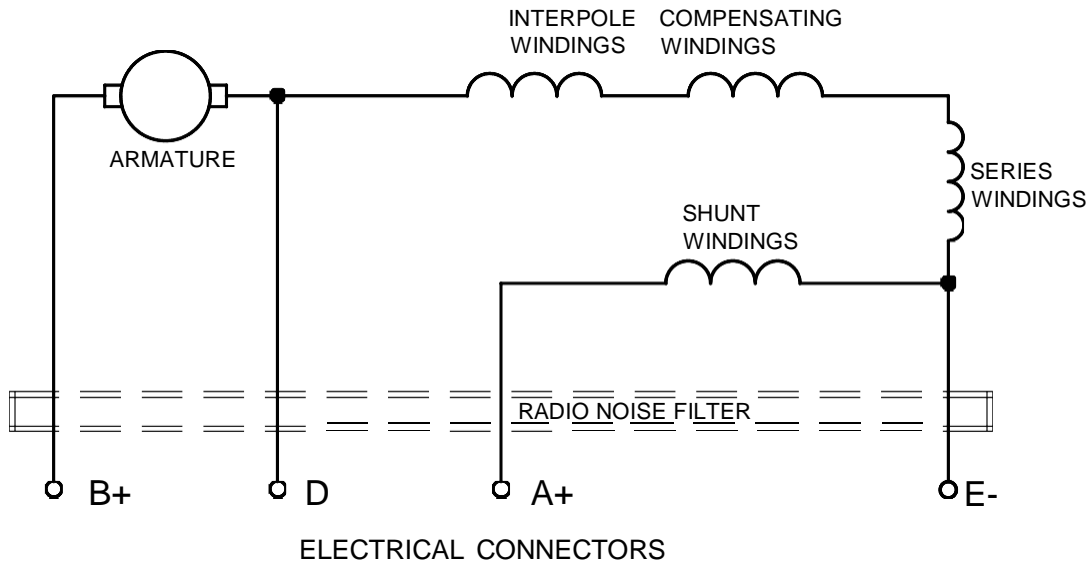
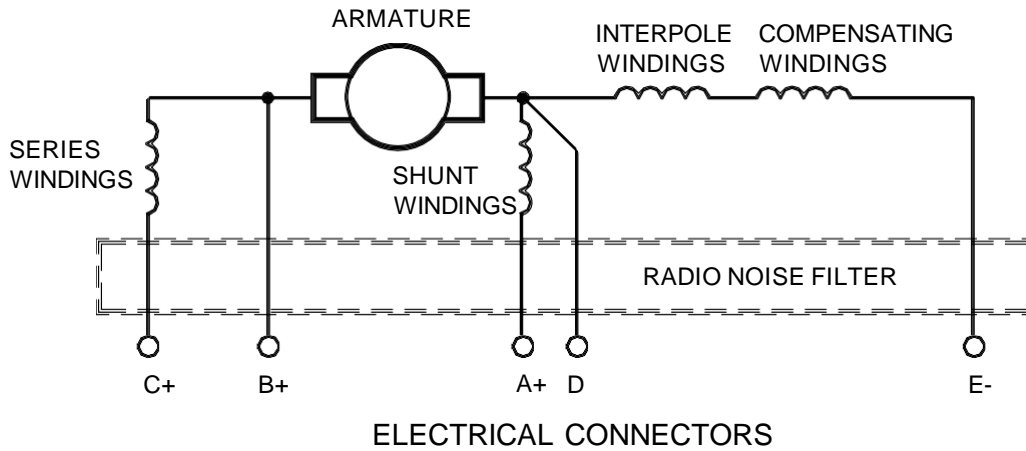

Figure 2 - Models 23077-006, -007 Schematic Diagram
Figure 3 - Models 23077-000, -000-1, -000-2, -002, -002-1, -003, -004, -005, -009, -010 Schematic Diagram
Electromagnetic interaction between the armature and stator produces output torque during engine starting and DC electrical power during engine operation. Figure 2 and Figure 3 are schematic diagrams for the 23077 Series DC Starter-Generator models.
(1) Shunt Start
- (a) During the engine start cycle, the aircraft power bus applies DC voltage across terminals B and E which supplies current to the armature and stator windings. At the same time, a voltage is applied to shunt field terminals A and D from a Safran Corporation Generator Control Unit (GCU). The starting power can be supplied by aircraft batteries or a ground power source. Figure 2 is a schematic diagram for a typical shunt start DC starter generator.
(2) Series Start
Figure 3 is a schematic diagram of a typical series start DC starter-generator.